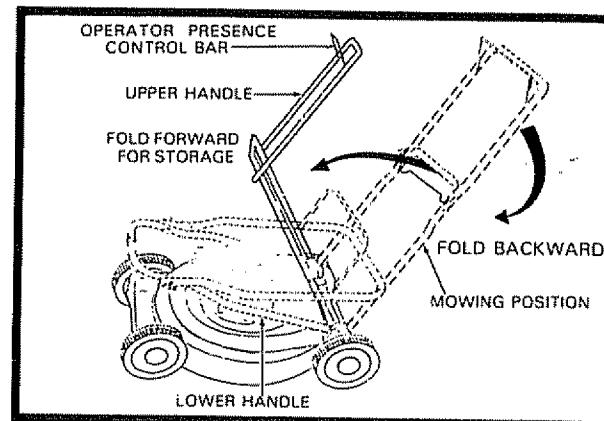

FIG. 10
- You can fold your mower handle for storage as shown in Fig. 10.
IMPORTANT: WHEN FOLDING THE HANDLE FOR STORAGE OR TRANSPORTATION, BE SURE TO FOLD THE HANDLE AS SHOWN IN FIG. 10. IF YOU FOLD THE UPPER HANDLE SECTION THE WRONG WAY, YOU MAY DAMAGE THE CONTROL CABLES.